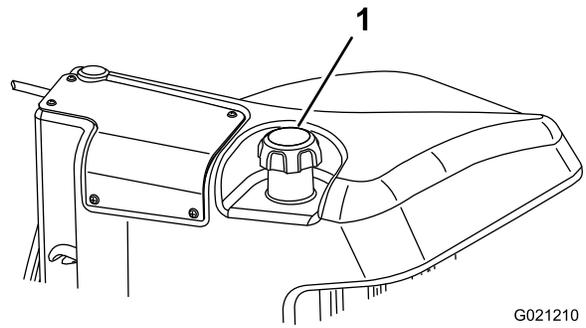

Figure 31
3. Remove cap from the fuel tank (Figure 31).